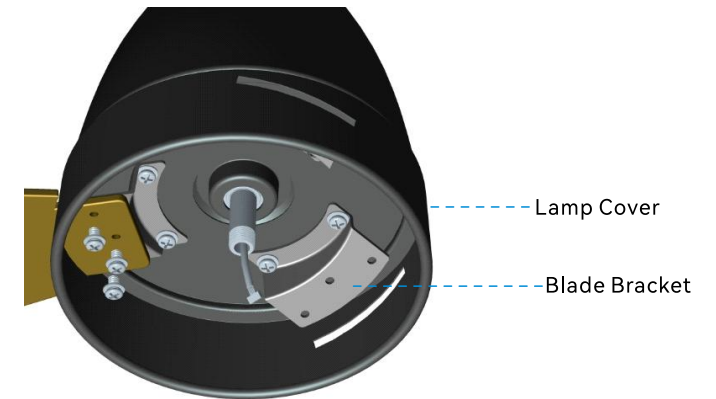

Fig 6.1
6.1 Locate 9 blade attachment screws and washers in the hardware pack. Slide the blade through the lamp cover and align the blade holes with the screw holes of the blade bracket and fasten the blades with the screws and washers as shown in Fig 6.1.